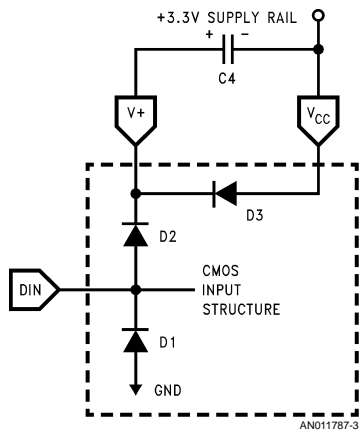

FIGURE 3. Input Protection Circuitry
Let us first examine the input structures of the D_{IN} and SD input pins, as these structures are very similar. The common circuitry is illustrated in Figure 3 and is composed of two input protection diodes (D1 and D2). In addition, a third diode (D3) exists between the V_{CC} and V+ pins and is normally reversed biased. Diode D1 is situated between the input (D_{IN} or SD) pin and GND to clamp negative input voltages. Diode D2 is situated between the input pin and the V+ pin. When the DS14C335 is active (ON), the V+ pin is typically greater than +9V. External charge pump capacitor C4, holds 6V of charge, and is referenced to the V_{CC} (+3.3V) pin. This creates a potential of greater than +9V on the V+ pin, and is used to power the driver outputs. The input pins (D_{IN} and SD) present standard input current loading to the driving device (UART) since D1 and D2 remain reversed biased between -0.3V and one diode above the V+ pin potential (typically greater than +9V).